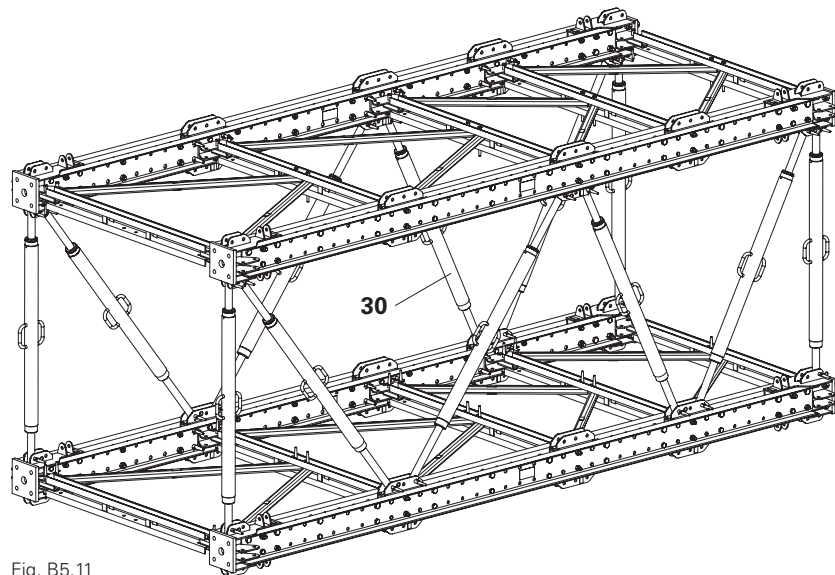

Fig. B5.11
1. Install the required number of heavy-duty spindles SLS (30) using fitting pins \varnothing 21 mm (9). (Fig. B5.11)